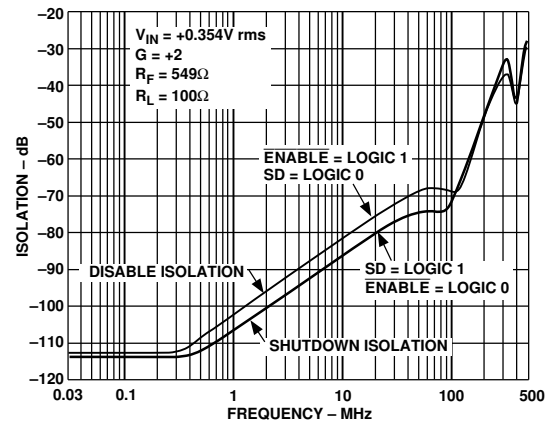

Figure 14. AD8174R Disable and Shutdown Isolation vs. Frequency
7AD8174 only. Shutdown (SD) pin is grounded. Mux is disabled, (i.e.,  $\overline{\text{ENABLE}}$  = Logic 1) and all inputs are driven simultaneously with VIN = 0.354 V rms. Output is monitored at f = 5 MHz and 30 MHz; RL = 100 Ω. In this mode, the output impedance of the disabled mux is very high (typ 10 MΩ), and the signal couples across the package; the load impedance and the feedback network determine the crosstalk. For instance, in a closed-loop gain of +1, rOUT ≈ 10 MΩ, in a gain of +2 (RF = RG = 549 Ω), rOUT = 1.1 kΩ (see Figure 14).
8AD8174 only.  $\overline{\text{ENABLE}}$  pin is grounded. Mux is shutdown (i.e., SD = Logic 1), and all inputs are driven simultaneously with VIN = 0.354 V rms. Output is monitored at f = 5 MHz and 30 MHz; RL = 100 Ω. (see Figure 14). The mux output impedance in shutdown mode is the same as the disabled mux output impedance.